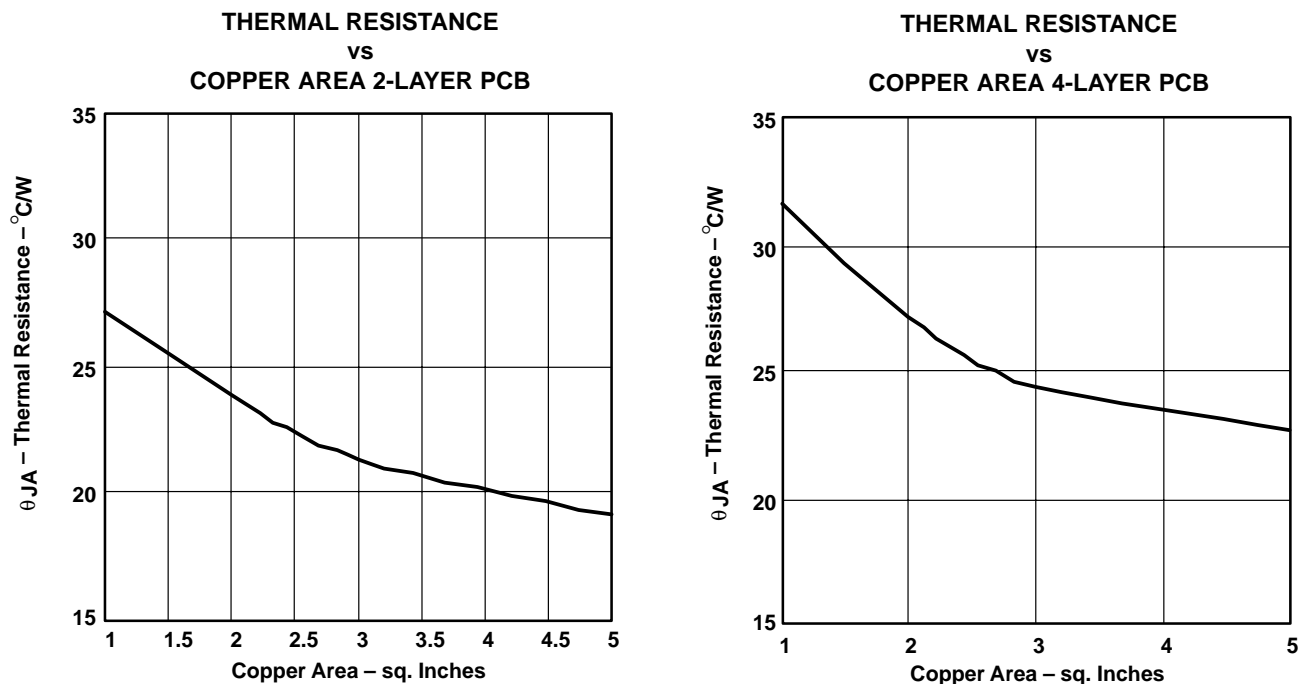

Figure 47. Thermal Resistance
$$\Theta_{JA} = 19^\circ\text{C/W} \quad (2\text{-Layer PCB, 5 sq. in. copper, see Figure 47)} \quad (8)$$
Figures 47 and 48 show the results of several thermal experiments conducted with the TPA3004D2. Both figures show that the best thermal performance can be achieved with more copper area for heat dissipation and an adequate number of thermal vias.
Figure 47 shows two curves for a 2-layer and 4-layer PCB. The 2-layer PCB layout was tightly controlled with a fixed amount of 2 oz. copper on the bottom layer of the PCB. The amount of copper is shown on the x-axis. Nine thermal vias of 13 mil (0.33mm) diameter were drilled under the PowerPad and connected to the bottom layer. The top layer only consisted of traces for signal routing.